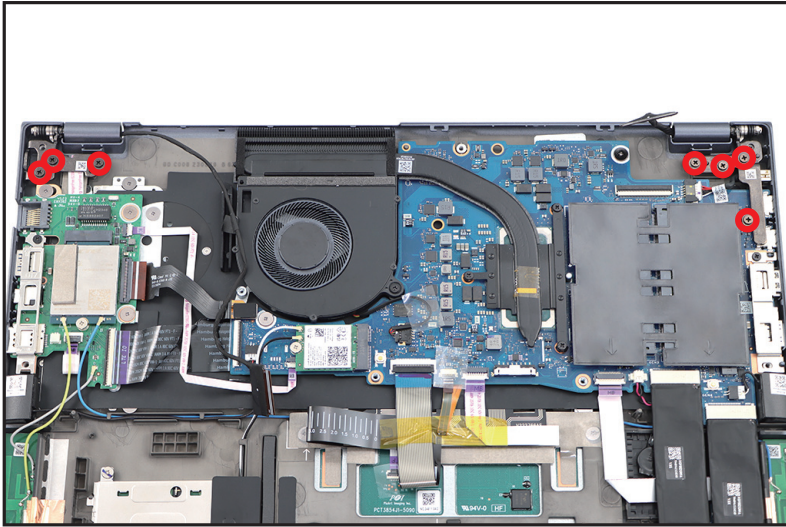

Figure 1-15. LCD Module Removal
3. Remove seven (7) screws securing the LCD hinges (Figure 1-15).